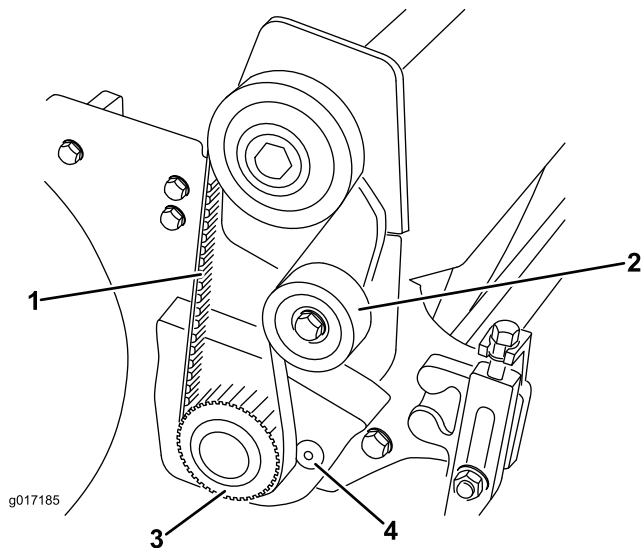

Figure 8
17. Loosen the idler pulley to relieve the belt tension and remove the reel drive belt from the pulleys (Figure 8).
18. Using a 1/2 inch drive ratchet and extension, remove the drive pulley from the reel shaft (Figure 8). Secure the reel from turning with a wood block.
19. Remove the two flat head machine screws and nuts securing the groomer arm cover to the bearing housing and side plate (Figure 8). Remove the groomer arm cover and retain the fastener.